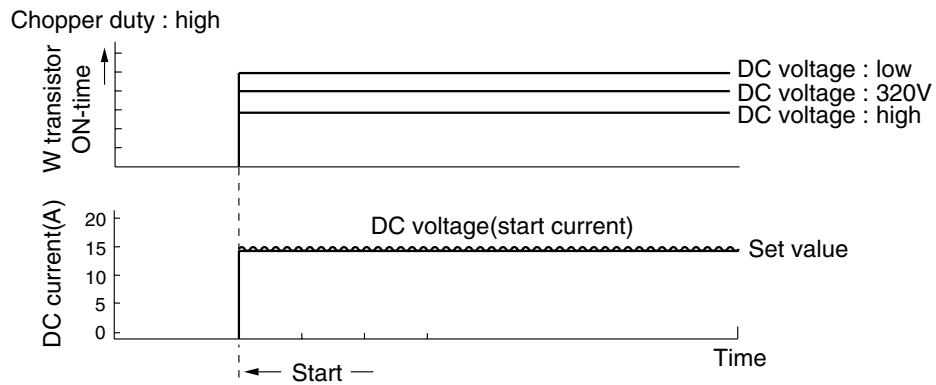

Fig. 7-10
- (2) Varies the turn-On time of the W⁺ transistor according to the DC voltage level and the start is controlled so the start current is approx. 10A as shown in Fig.7-10.